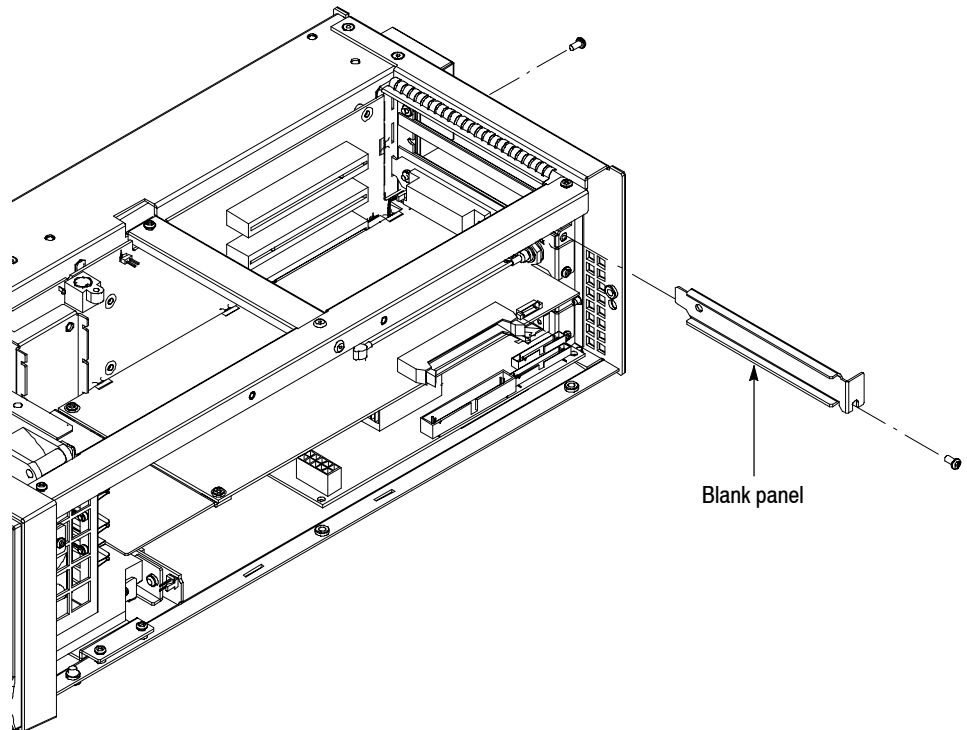

Figure 4: Removing the blank panel
1. Use a screwdriver with a T-10 Torx tip to remove the two screws securing the blank panel to the side and rear of the chassis. See Figure 4.
2. Lift the blank panel away to remove it. See Figure 4. Save the screws.